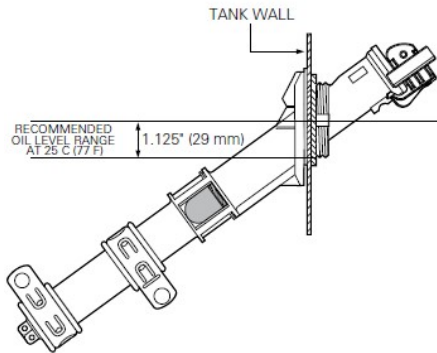

figure 8-10 Check fluid level
- The fluid level in the transformer should be approximately at the base of the protruding plastic threads of the Bay-O-Net housing at 25° C (77° F) with the transformer on a level surface. (See "figure 8-10 Check fluid level").
- Twist the locking handle so that the latch engages the Bay-O-Net housing's shoulder and the steel washer seats tightly on the end of the tube of the Bay-O-Net holder assembly. (See "figure 8-10 Check fluid level").